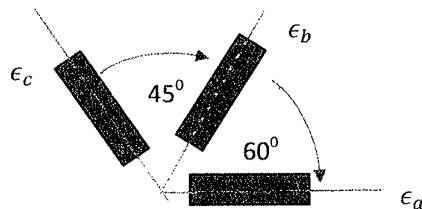

Figure Q4
- (iii) The stress state of a certain concrete component was determined using a strain rosette as shown in Figure Q4. Due to the loadings, strain gauges gave strain values as $\epsilon_a = -50 \mu\epsilon$, $\epsilon_b = 60 \mu\epsilon$, $\epsilon_c = 90 \mu\epsilon$.